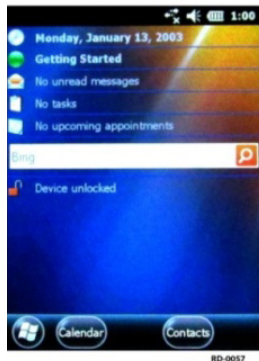

Figure 9. Handheld reader menu screen
2. Make sure you have your Bluetooth radio enabled on your mobile computer. See *the Microsoft Windows embedded handheld 6.5 (CN70e) user manual for more information*. A menu screen appears (Figure 9).